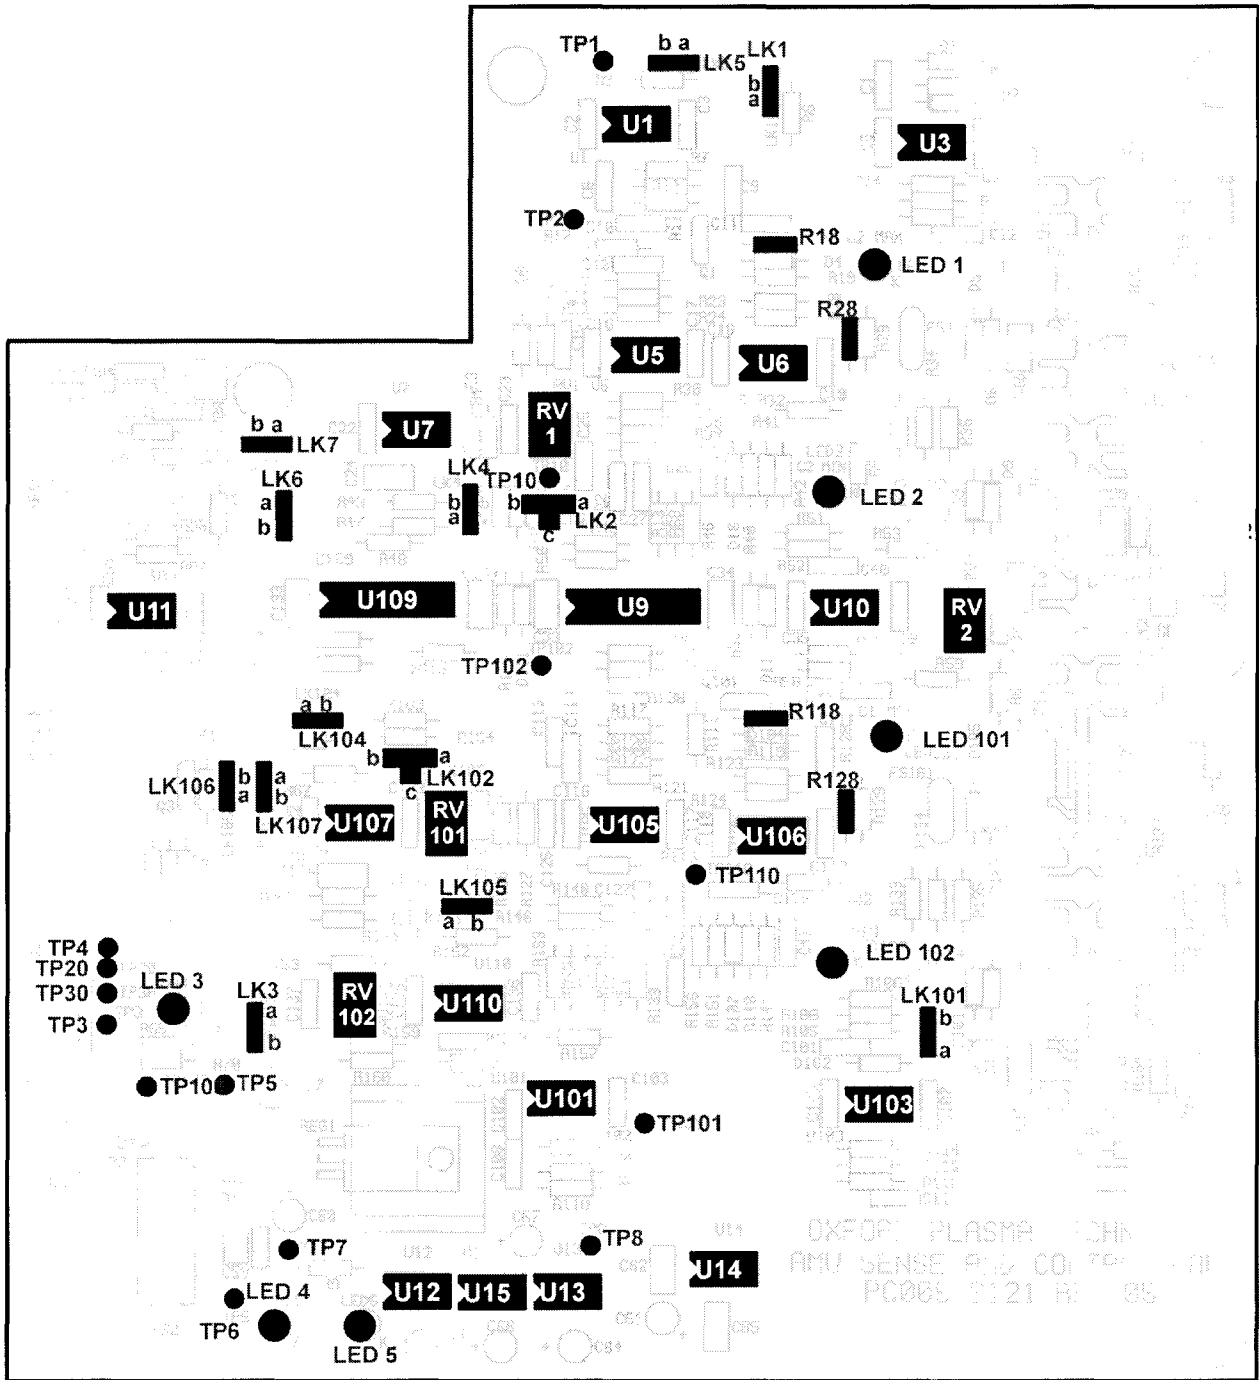
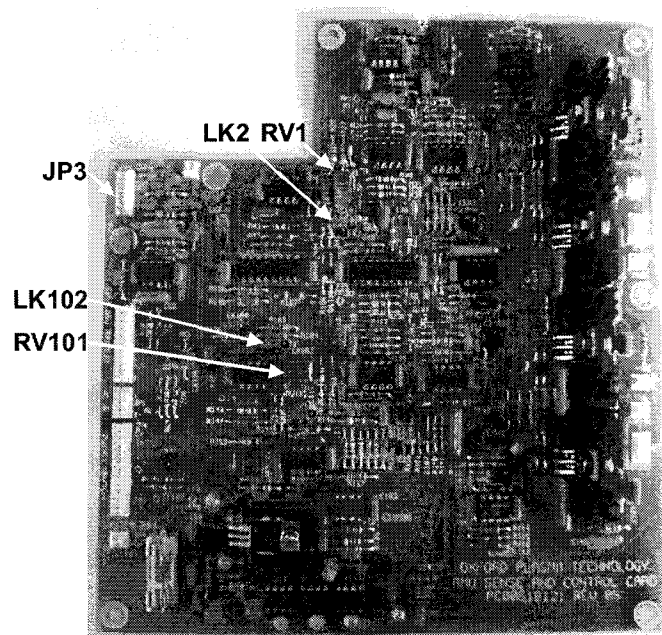

Fig 4: Sense and control PCB layout
Fig 6: Component locations
Refer to drawing 94-SE00A17801 for a circuit diagram of the AMU. The layout of the Sense and Control PCB is shown in Fig 4 .
- 8) Set LK2 and LK 102 to position 'b', and then turn RV1 and RV101 fully clockwise until they begin to click (see Fig 6 or Fig 4).
- 10) Manually match to the lowest possible reflected power using the AMU control panel, and make sure a plasma is running. Adjust the error signal zero potentiometers RV1 and RV2 (located on the same side of the AMU as the RF in connector; see Fig 1), while monitoring the two error signals on JP3 pins 1 and 3 (See Fig 6). These should be less than 20 mV when a match exists. Amplified error signals are accessible at TP 10 and TP 110; these should be made as low as possible when the RF is well matched.